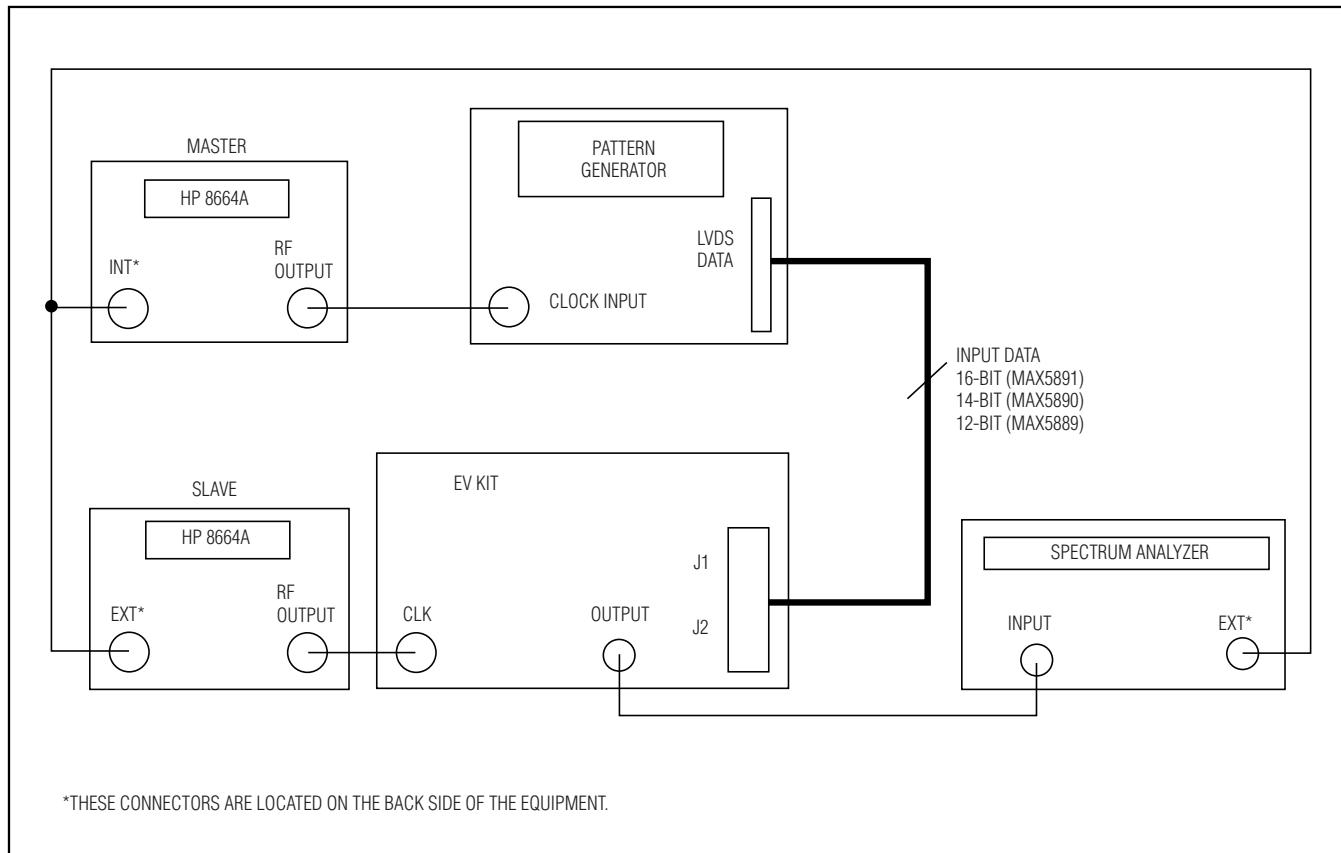

Figure 1. MAX5889/MAX5890/MAX5891 EV Kit Quick Start Setup
The EV kit is a fully assembled and tested surface-mount board. Follow the steps below for board operation. **Caution: Do not turn on power supplies or enable signal generators until all connections are completed (Figure 1).**
- Synchronize the digital pattern generator with the clock signal generator (Figure 1).